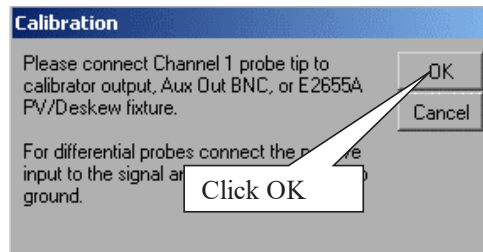

Figure 15 Calibration Window.
- 9 Referring to **Figure 15** shown below, perform the following steps: